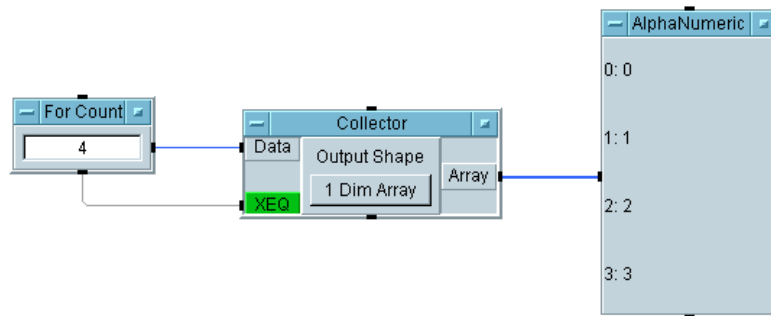

Figure 5-1. The Collector Creating an Array
7. Run the program. It should look like Figure 5-1.